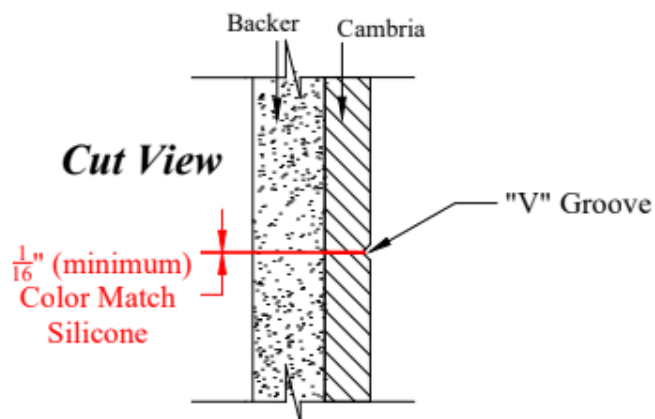

Figure 8
18. The edge of the seam of adjoining pieces can have a polished eased edge applied to create a "V-Groove" to further accent the seam or as a design aesthetic for the installed Cambria product. **See Figure 8.**